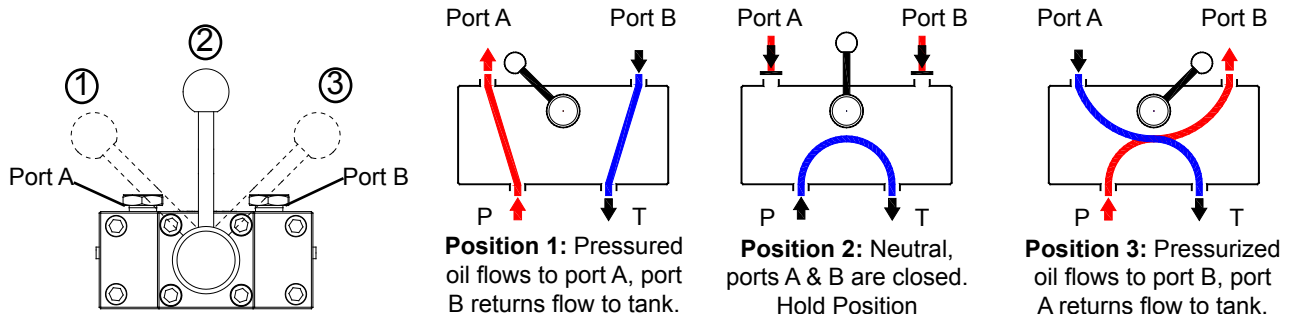

Figure 3 - Schematic flow path, valve position of 4-way, 3-position valve for Double Acting Cylinder
6. Use the control valve lever to control the direction of fluid flow. These pumps are equipped with a 4-way 3-position valve for use with double acting cylinder applications **ONLY**. Refer to Figure 3 below for the flow path.
11. Depressurize all connections before disconnect. If you have any questions, call BVA Technical Service (888)-332-6419.